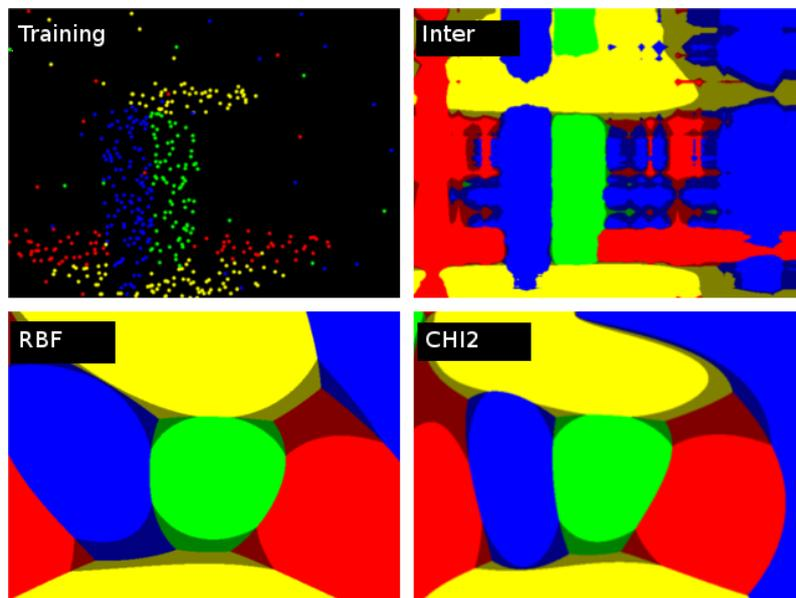

Figure 6.14: Comparison of different SVM kernels (source OpenCV documentation)
- **KernelType:** The kernel type of the SVM model. See Figure 6.14 for a comparison of the results of different kernel types on some sample training data. Possible values are: